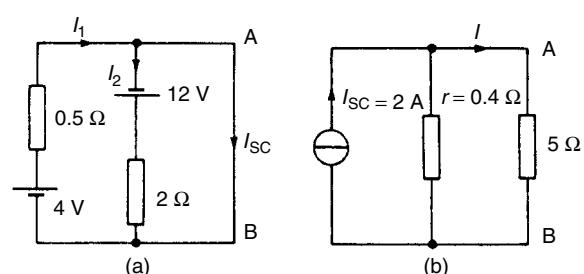

Figure 13.58
- (i) The 5Ω branch is short-circuited as shown in Fig. 13.58(a)
- (ii) From Fig. 13.58(a),
- (iv) From the Norton equivalent network shown in Fig. 13.58(b) the current in the 5Ω resistance is given by: